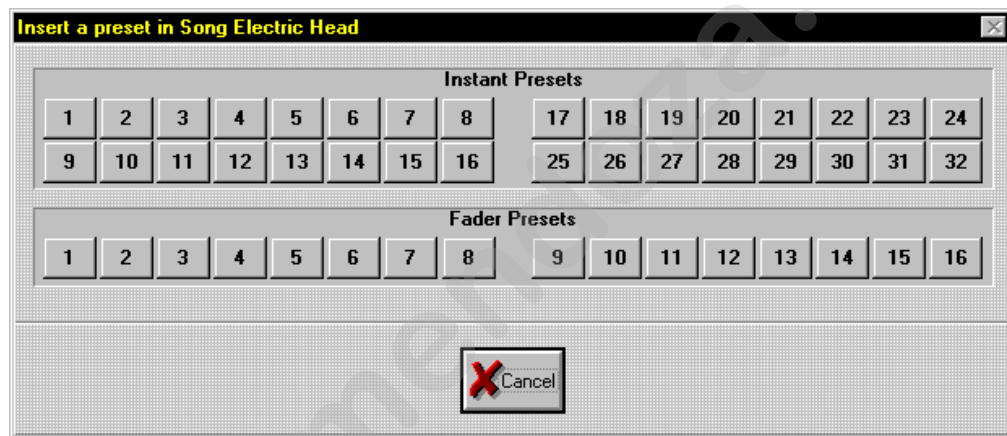

Figure 7.7. Insert a Preset in Song Dialogue Box
2. Select the **Insert Preset** item from the **Song** drop-down menu. This brings up the **Insert a Preset in Song** dialogue box. Refer to Figure 7.7.